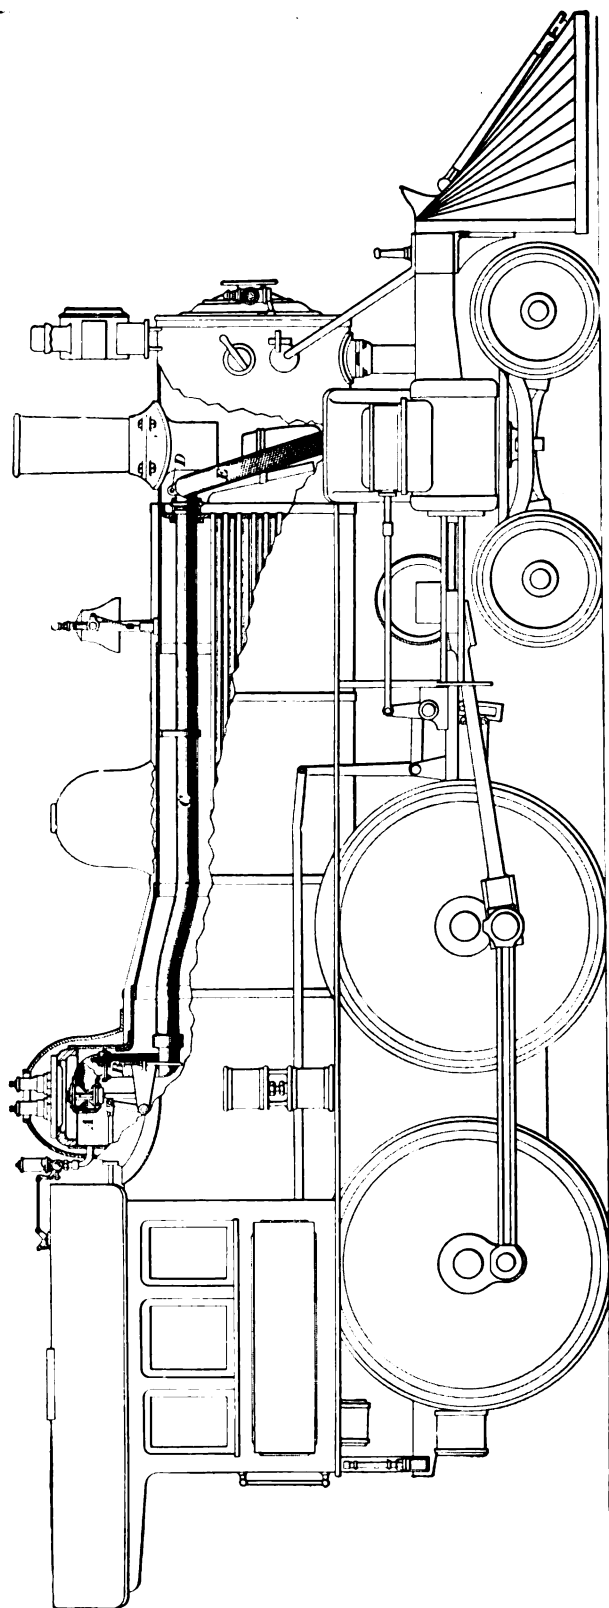
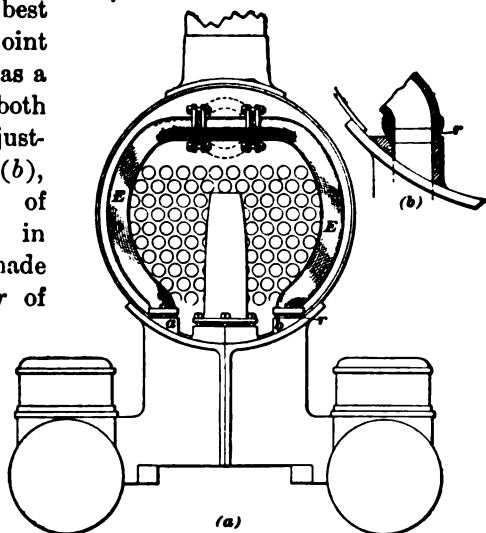

FIG. 1.
FIG. 6.
In Fig. 1 is shown a view of a locomotive boiler with the shell broken away, to show the interior arrangement of the throttle valve, dry pipe, and steam pipes. *A* is the throttle valve; it is located in the dome and its duty is to control the supply of steam to the cylinders. *B* is the stand pipe; *C*, the dry pipe; *D*, the T pipe or *nigger head*—called the
**9. The steam pipes**, as was explained in connection with Fig. 1, are located in the smokebox—see *E, E*, Fig. 6, view (*a*)—and connect the **T** pipe with the steamways *a, b* in the cylinder
Owing to variation in the lengths of the steam pipes due to expansion and contraction, it is rather difficult to keep the joints at the top and bottom ends steam-tight; it has been found that to obtain the best results, a form of joint must be used that has a certain amount of both flexibility and adjustability. Fig. 6, view (b), illustrates a form of joint that is now in general use. It is made by placing a ring *r* of brass or cast iron in the steam-pipe connection. When such a joint is used, the steam pipe can be moved slightly on its seat in any direction without the joint leaking, while at the same time it is sufficiently flexible to take care of the contraction and expansion of the steam pipe. After being carefully ground in, this joint is bolted up, as shown.